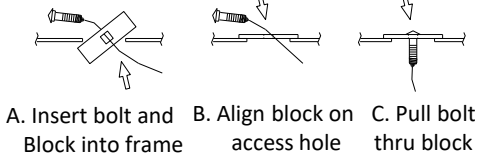

Figure 1
- Lower exhaust**– Using an exhaust hanger removal tool, lower muffler by removing (4) rearmost rubber hanger for two exhaust mufflers and (1) forward rubber hanger. A spray of lubricant or soapy water on rubber hangers makes them slide off metal pins more easily. **NOTE: Be sure that exhaust is properly supported before removing rubber hangers.**
- Feed the carriage bolts ① and spacers ② through access holes on both side frame rails using the pull wires ⑨ for horizontal holes, **see Figure 1.** Leave pull wires attached.